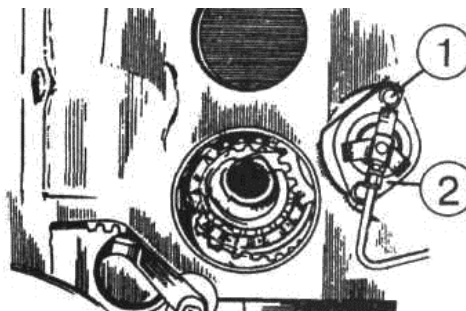

Figure 4.80
b) unscrew bolts 1 (Figure 4.80) and remove cup 2;